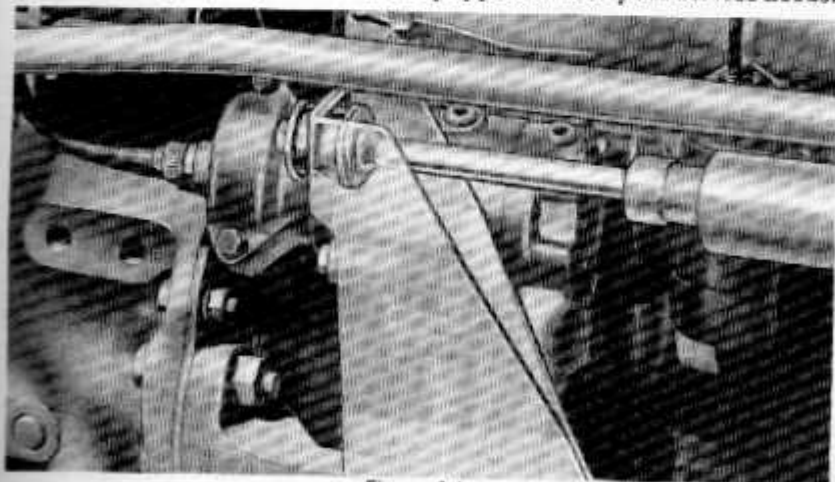

Figure 14
**Hydraulic Piston Pump:** Your new Ford Tractor is equipped with a piston pump, containing six pistons. The pump, shown in Figure 14, is gear driven and provides a constant flow of oil to the Ford Tractor "live action" hydraulic system in volumes which are proportional to engine speeds. For maximum efficiency of operation and long pump life, always use the recommended hydraulic fluid (Ford Spec. M-4864-A) when filling the tractor hydraulic reservoir. Always use clean containers for this operation. When service on the hydraulic system becomes necessary, see your local Ford Tractor and Implement Dealer. He is properly trained and equipped to meet your service needs.